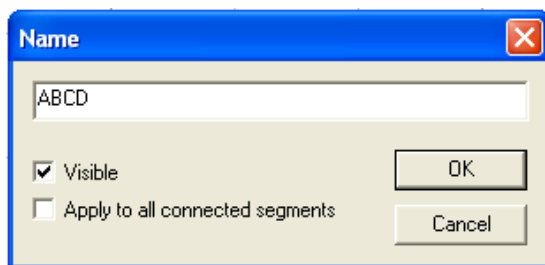

Figure 10-9
- Type the name of the wire in the text box. Be sure to check Visible as in Figure 10-9.